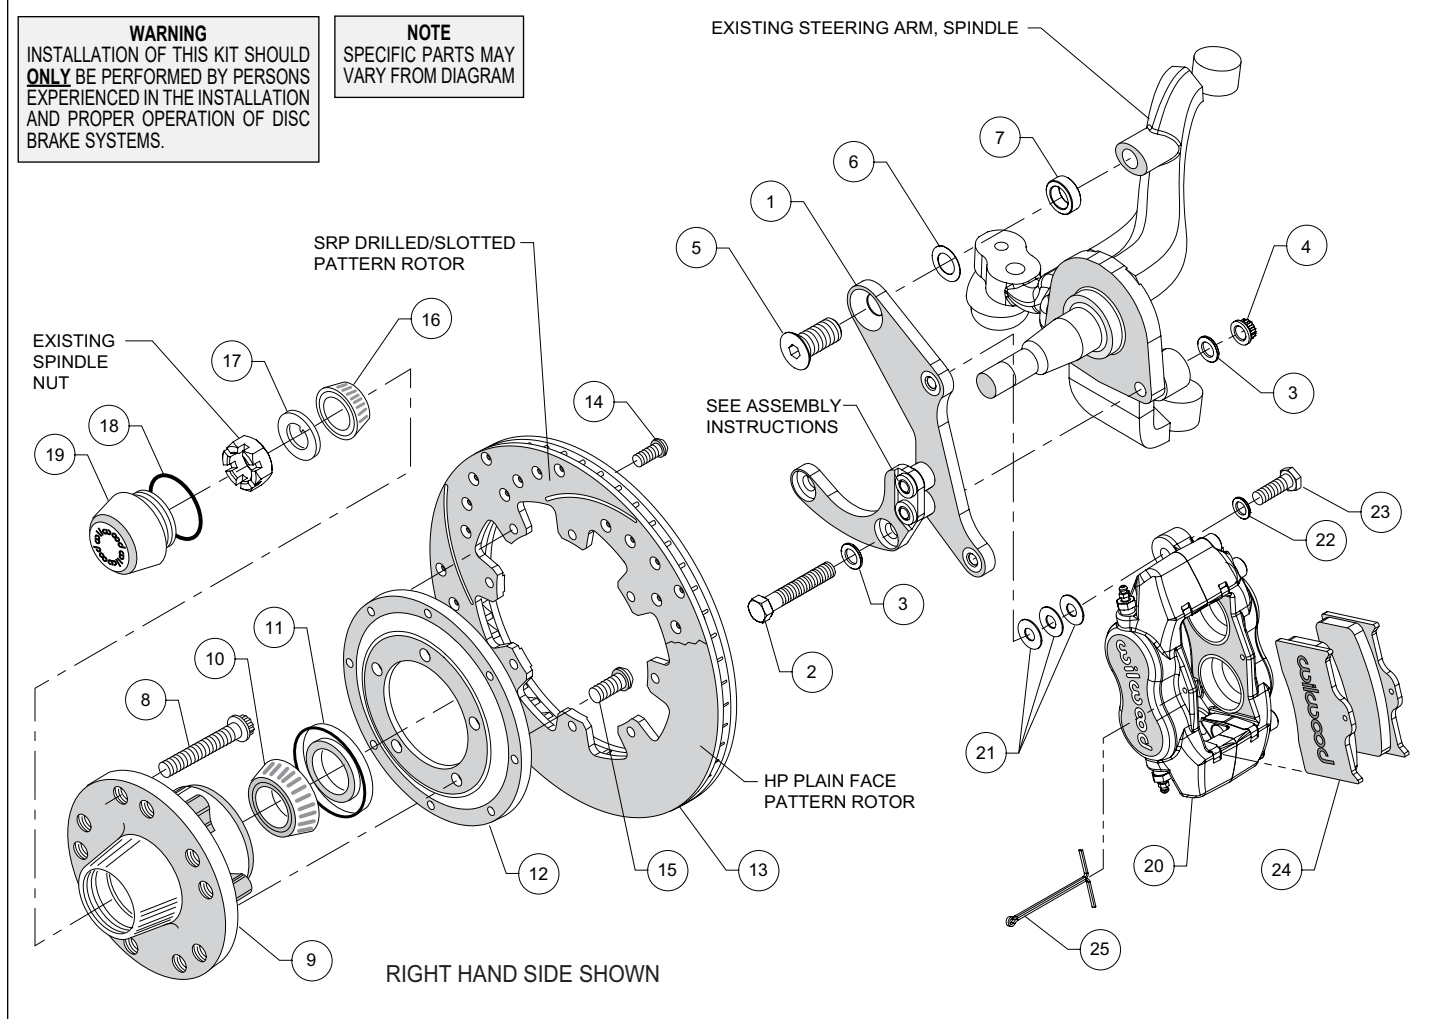
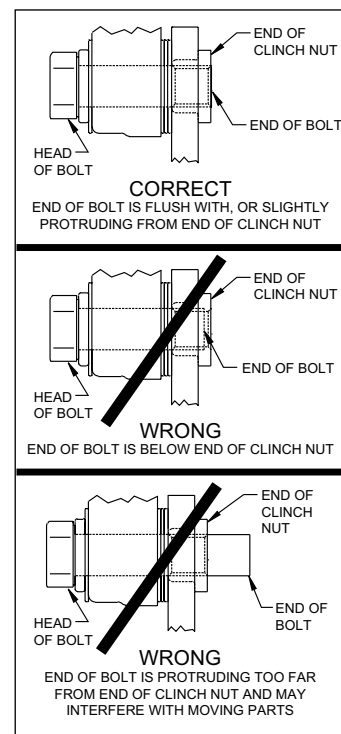

Figure 1. Typical Installation Configuration
Figure 3. Clinch Nut Engagement Diagram
•**NOTE:** Numbers in parenthesis refer to the parts list on the preceding page and Figure 1.
•**CAUTION:** All mounting bolts must fully engage clinch nuts. Be sure to check that all bolts are either flush or protruding through flanged side of clinch nut after shimming, Figure 3.
•The caliper mounting bracket (1) has been assembled at the factory for alignment purposes. Loosen the two bolts that secure the brackets together so that the bolts are hand tight only. This will enable the bracket assembly to be adjusted to accommodate various spindle tolerances during assembly. Align bracket with the two lower holes on the spindle face and attach using bolts (2), and washers (3), and secure using nuts (4), as shown in Figure 1 and Photo 1. Install bolt (5) through top of bracket while placing shim (6) and spacer (7) between bracket and spindle, Figure 1. Initially use one .015" thick shim (6) on the top bolt between the bracket and upright. Temporarily tighten the mounting bolts. Ensure that the flanged heads of the clinch nuts in the bracket are facing outboard, Photo 1. **NOTE: The bracket must fit squarely against the mounting points on the spindle.** Inspect for interference from casting irregularities, machining ridges, burrs, etc. Some spindles may require a small amount of grinding to clear the bracket assembly in the area of the bracket-to-bracket spacers.
•Check that the bracket is aligned parallel to the rotor by assembling and installing the hub/rotor per the steps below. If not, adjust by adding or subtracting shims (6) between the spacer (7) and bracket, Figure 1.
- Pack the large inner bearing cone (10) with high temperature disc brake bearing grease (available from your local auto parts store) and install into the backside of the hub (9), Photo 3.
- Install the grease seal (11) by pressing into the backside of the hub (9), flush with the end of the hub, Photo 3.
- Orient the rotor (13) and the rotor adapter (12) as shown in Figure 1 and Photo 4. Attach the rotor to the adapter using bolts (14). Using an alternating sequence, apply red *Loctite*® 271 to the threads, and torque to 25 ft-lb.
- Mount the adapter/rotor assembly (12/13) to the hub (9) using bolts (15), as shown in Figure 1 and Photo 5. Using an alternating sequence, apply red *Loctite*® 271 to the threads, and torque to 45 ft-lb.
- Pack the small outer bearing cone (16) with high temperature disc brake bearing grease and install into hub (9). Slide the hub/rotor assembly onto the spindle. Secure using spindle washer (17) and OEM spindle nut, Photo 6. Adjust bearings per OEM specifications. Install saved OEM nut lock (if any) and a new cotter pin (not supplied).
- Screw dust cap (19) into hub (9), Photo 7. Friction created by the o-ring (18) on the dust cap keeps it from unscrewing. **NOTE:** The O.D. of the existing OEM spindle washer may be larger than the I.D. of the dust cap not allowing it to seat against the hub face. Therefore, use the spindle washer (17) supplied with the kit instead of the OEM washer.
- NOTE:** Please reference the caution statement at the beginning of the assembly instructions. Mount the caliper (20) onto the caliper mounting bracket (1) using bolts (23) and washers (22), as shown in Figure 1. Initially place two .035" thick shims (21) on each bolt between the caliper and the bracket, Photo 8. Temporarily tighten the mounting bolts and view the rotor (13) through the top opening of the caliper. The rotor should be centered in the caliper, Photo 9. If not, adjust by adding or subtracting shims between the bracket and the caliper. Always use the same amount of shims on each of the two mounting bolts. **NOTE:** The end of each bolt must be flush with or slightly protruding from the head of the clinch nut, as shown in Figure 3. If necessary place spare shims between washer (22) and caliper mounting ear to achieve the proper clinch nut engagement. Once the caliper alignment and clinch nut engagement are correct, remove the bolts one at a time, apply red *Loctite*® 271 to bolt threads, and torque to 40 ft-lb.
- Install the disc brake pads (24) into the caliper, with the friction material facing the rotor (13), and secure in place using cotter pin (25), Photo 10.